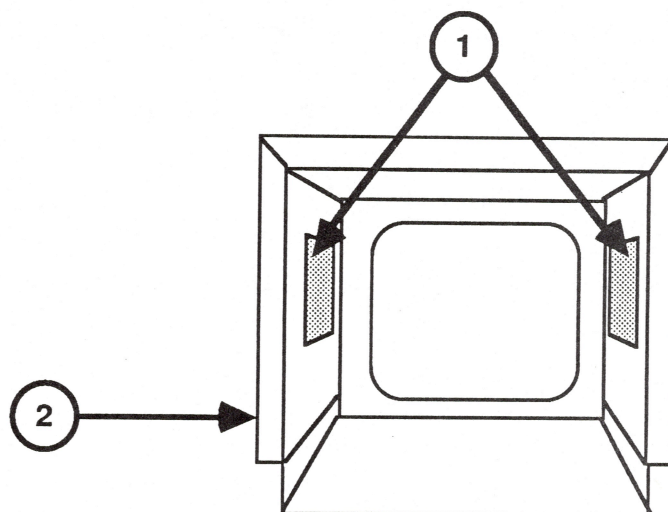

FIGURE 2
3. Attach the two large labels (Figure 2, #1) over the existing labels to the inside wall of the ColorMonitor rear cover (Figure 2, #2).